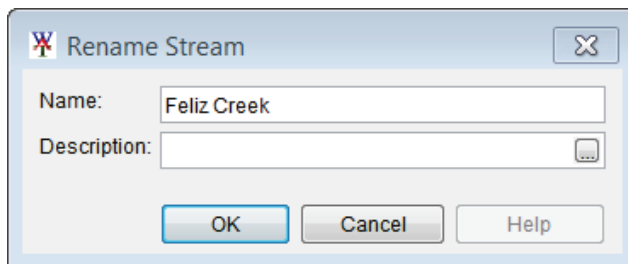

Figure F.18 Rename Stream Dialog Box
2. The **Rename Stream** dialog box opens (Figure F.18). Enter the new name in the **Name** box (required) and description in the **Description** box (optional, but recommended).
3. Click **OK** and the **Rename Stream** dialog box will close (Figure F.18). The new name of the stream will be shown on the map window.